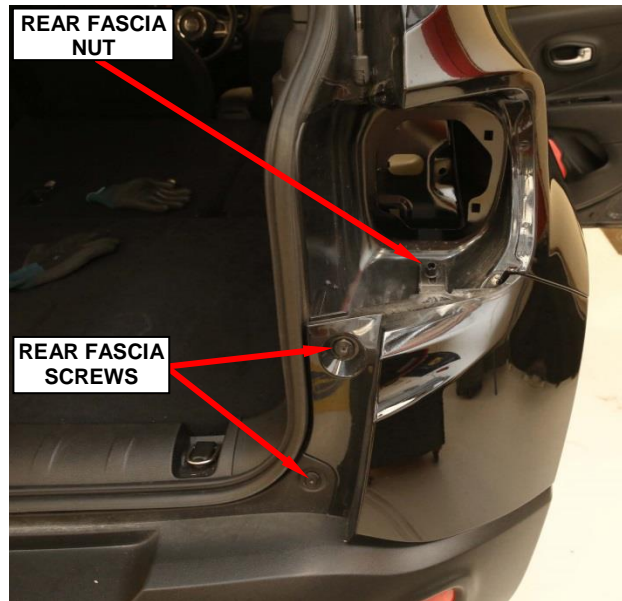

Figure 8 – Rear Fascia Fasteners
11. Remove the rear fascia nut located in the tail lamp bucket on the left and right sides of the vehicle (Figure 8).
12. Remove the rear fascia screws located in the tailgate opening on the left and right sides of the vehicle (Figure 8).
19. Install the screws located in the tailgate opening. Tighten the screws securely (Figure 8).
20. Install the nuts located in the tail lamp bucket on the left and right sides of the vehicle. Tighten the screws securely (Figure 8).